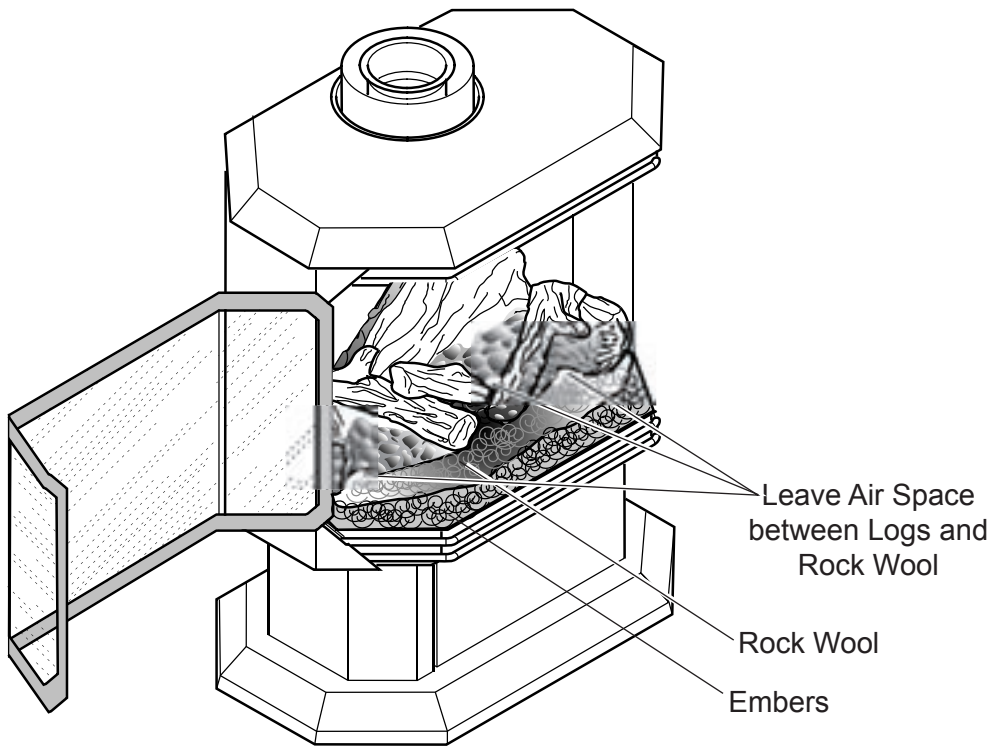

Figure 38 - Installing Rock Wool
9. Break up rock wool (ember material) into dime-sized pieces. Place evenly across burner surface and mesh of grate. See *Figures 38 and 39*. Do not exceed 1" depth of coverage.